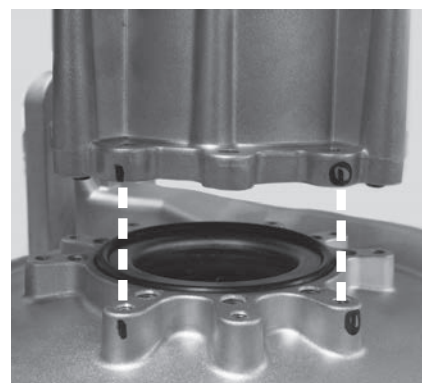

Figure 88 - Proper fan and venturi alignment
- 16** Install the new fan to the venturi. Reference the orientation mark on the old fan to position the new fan properly as shown in Figure 88. Use the screw hole marks on the venturi to properly install the four (4) screws previously removed in **Step 14**.